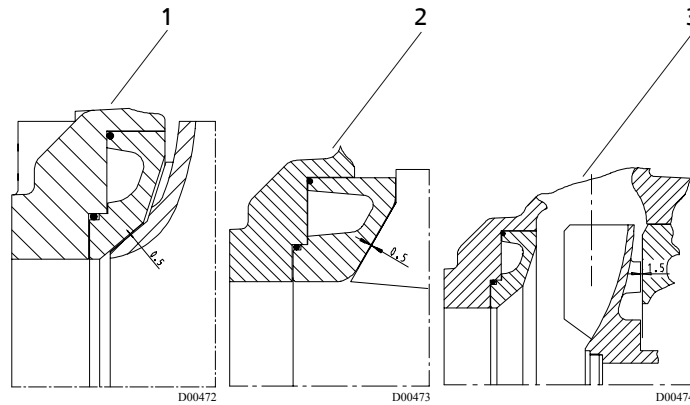

Fig. 22: KWP clearance gaps
- 6. Re-adjust the gap between impeller and wear plate as per the corresponding table and Fig. 22 "KWP clearance gaps".